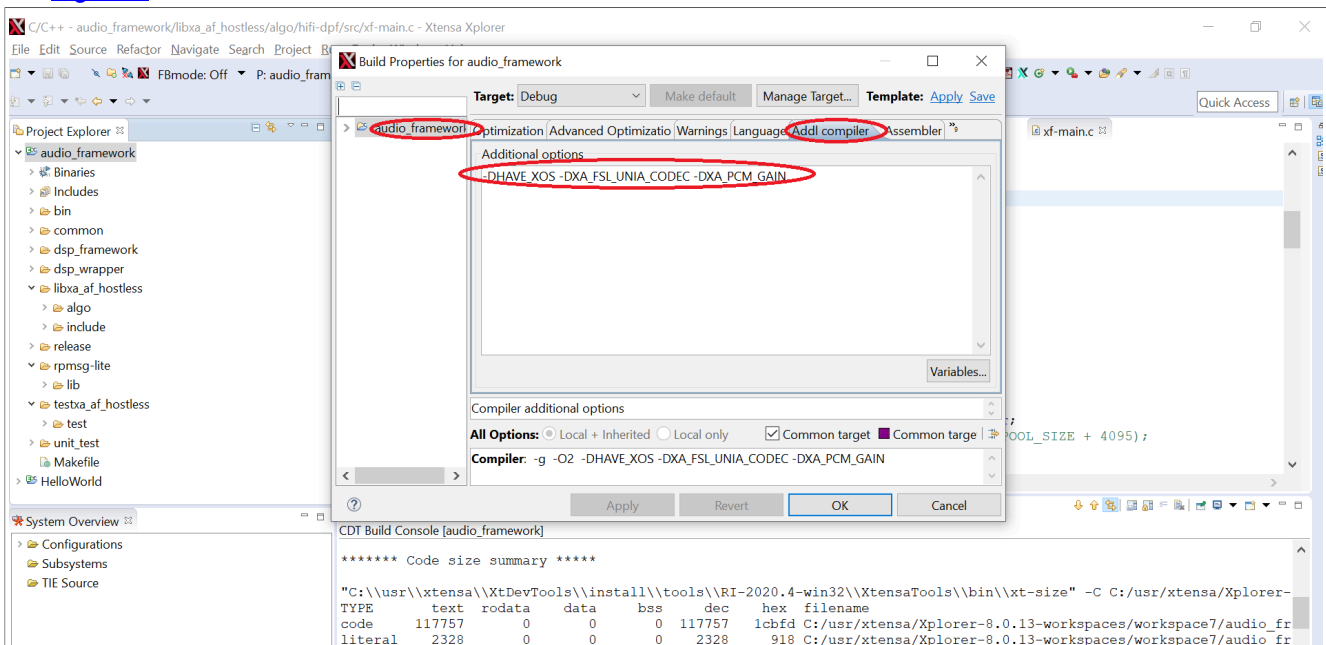

Figure 9. “Build Properties” dialog
1. Right-click the name of the DSP framework project in the “Project Explorer” panel and choose the “Build Properties...” option. You will see the “Build Properties for dsp_framework” dialog. The dialog is shown in Figure 9.